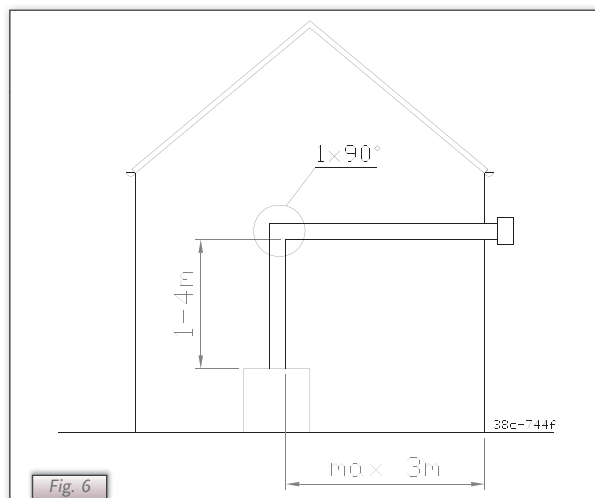

Fig. 6
- 1) minimum 1 meter and maximum 4 meters of vertical pipe length combined with a 90° bend and a maximum 3 meters horizontal pipe length and a wall duct (see Fig. 6).